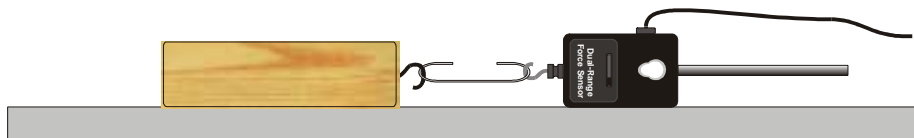

Figure 1
- d. Depending on the type of sensor you are using, choose FORCE-DFS (10N) or FORCE-SFS (N) from the list of sensors.
- b. Ensure that the box in front of CH1: FORCE(N) is checked. If it is not, tap CH1: FORCE(N) to check it.
- c. Lay the Force Sensor on the tabletop in the position shown in Figure 1. When the force readings on the screen stabilize, tap **Zero**. When the **Wait** button changes back to **Zero**, the process is complete, and readings for the sensor should be close to zero.